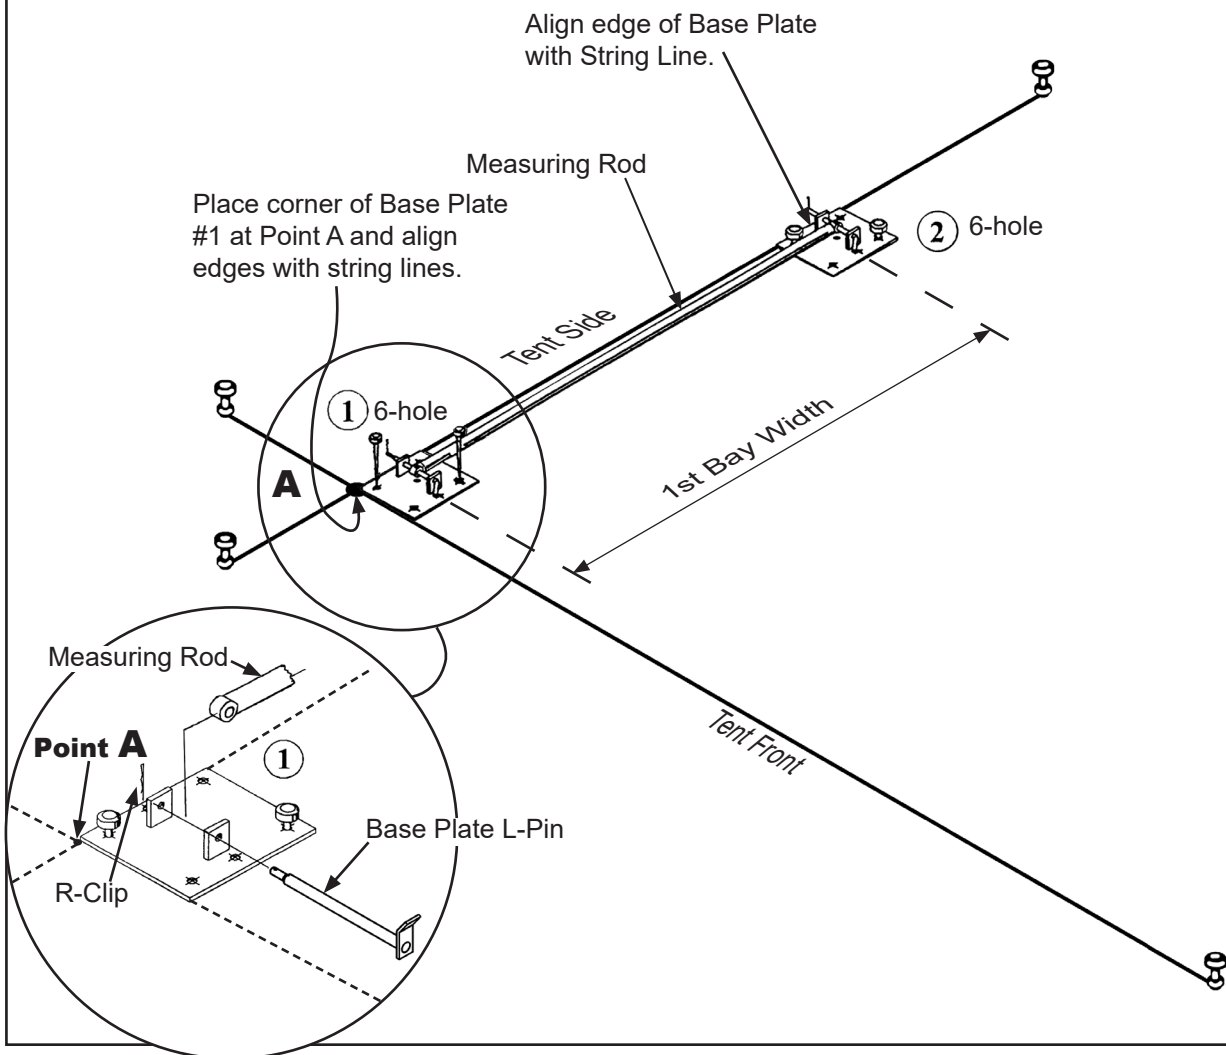

Figure 1.2a
- 1.2 Setting Base Plates:** Incorrect placement of base plates will create problems for the rest of the installation. Each hole of each base plate requires stakes for proper installation. See **Figure 1.2a**. 6-Hole base plates use **40" stakes**, 4-Hole base plates use **31 1/2" stakes**.
- 1.2.1 Starting at point A, place the outside corner of 6-Hole base plate #1 at point A, making sure the edges along the front and side of the base plate align with the front and side string lines, respectively. Anchor with two (2) stakes. See **Figure 1.2a**.
- 1.2.2 Connect the measuring rod with base plate L-Pin to base plate #1. Connect other end of the Measuring Rod to base plate #2 with base plate L-Pin. See **Figure 1.2a**.